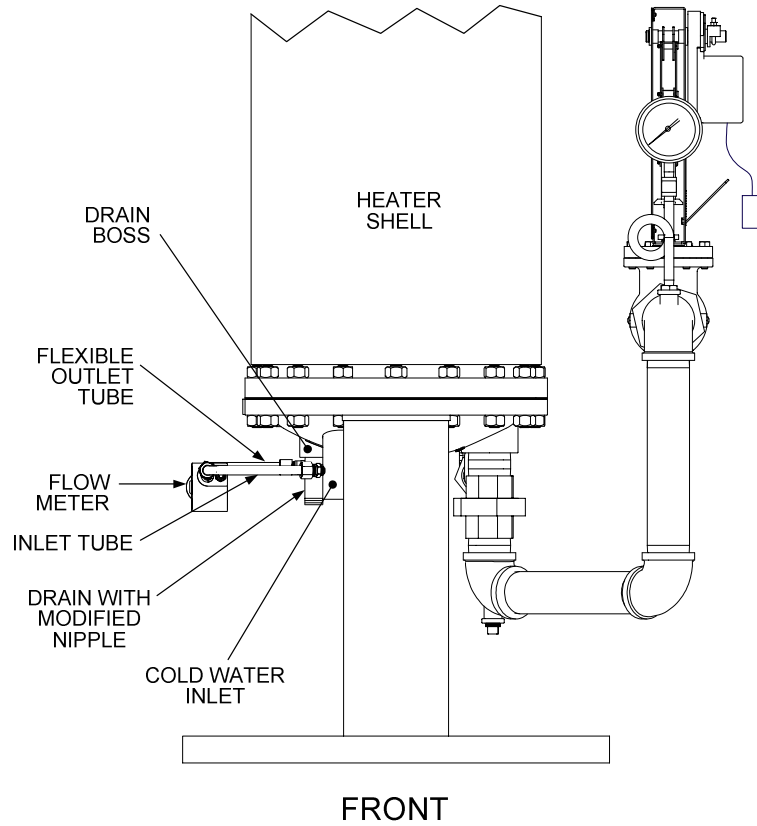
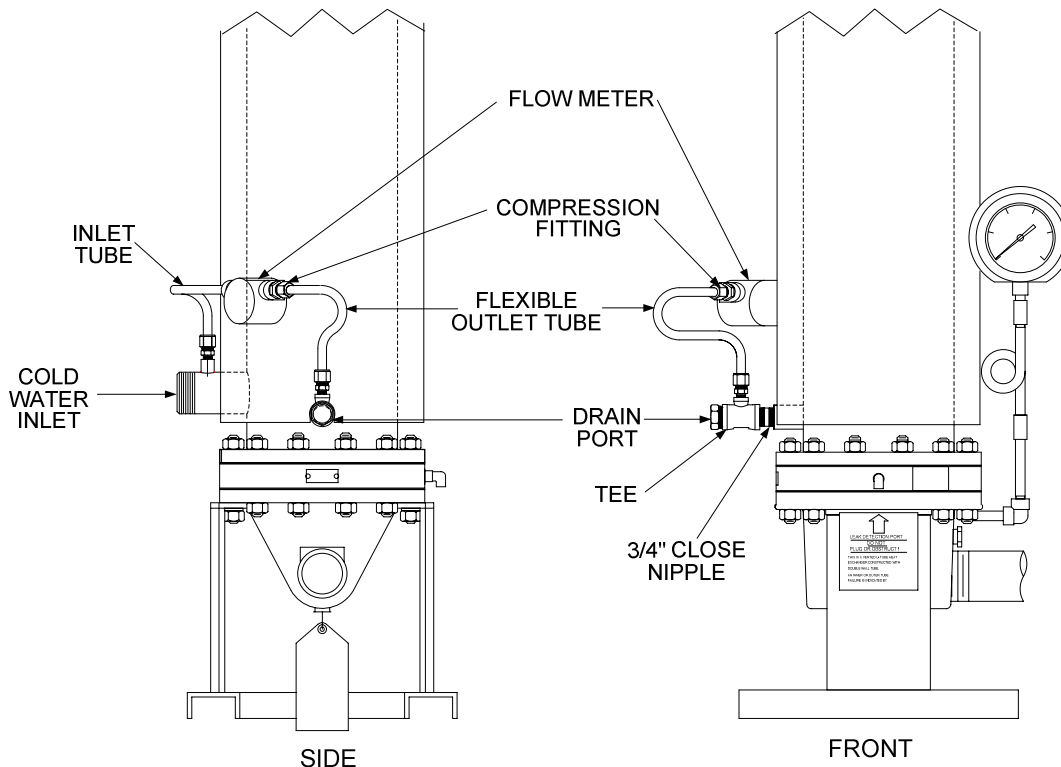

Figure 4-5. Typical (B+) Helitherm Heater Flow Meter Location – Front View
Figure 4-7. Double-Wall Heater Flow Meter Location
As part of the Electronic Control System (ECS) Retrofit, a new Flow Meter must be added to the Packaged Heater. The purpose of this meter is to provide a feed-forward signal to the Temperature Controller contained in the ECS Control Box. The installation location will vary depending on whether the AERCO Water Heater Model being retrofitted is a Helitherm Heat Exchanger (A-Plus, B-Plus, B-Plus II and E-Plus), or a Double-Wall Heat Exchanger (DW-24, DW-45, DW-68). For Helitherm Model Heaters, the Flow Meter is installed between the Cold Water Inlet and the Drain Outlet on the Bottom Head of the Heater (Figures 4-5 and 4-6). However, for Double Wall Heater Models, the Flow Meter is installed between the Cold Water Inlet and Drain Outlet on the Heater Shell. See Figure 4-7. All required installation components are included in the Retrofit Kit. Proceed to paragraph 4.3.1 (Helitherm) or 4.3.2 (Double-Wall), as applicable.
For A-Plus, B-Plus, B-Plus II and E-Plus Heaters, the Flow Meter connections are made at the Bottom Head of the Heater. The Flow Meter Inlet side connects to the Cold Water Inlet using Rigid Tubing. However, the Outlet side of the Flow Meter connects to the Drain Outlet using Flexible Tubing. A typical B-Plus or B-Plus II installation is shown in Figures 4-5 and 4-6. Refer to these Figures when performing the following steps:
Flow Meter connections for Double-Wall Heater Models DW-24, DW-45 and DW-68 are made on the Shell as shown in Figure 4-7. As with Helitherm Models, Rigid Tubing is used for the Flow Meter Inlet connection to the Cold Water Inlet and Flexible Tubing is used for the Outlet connection at the Drain. Flow Meter installation is accomplished as follows:
5. Install the Close Nipple and Tee in the Drain Port (Figure 4-7)
6. Connect the Flow Meter Outlet Flexible Tubing to the Drain Outlet Tee as shown in Figure 4-7. Connect the Rigid Inlet Tube from the Flow Meter to the Cold Water Inlet using the compression fitting provided.